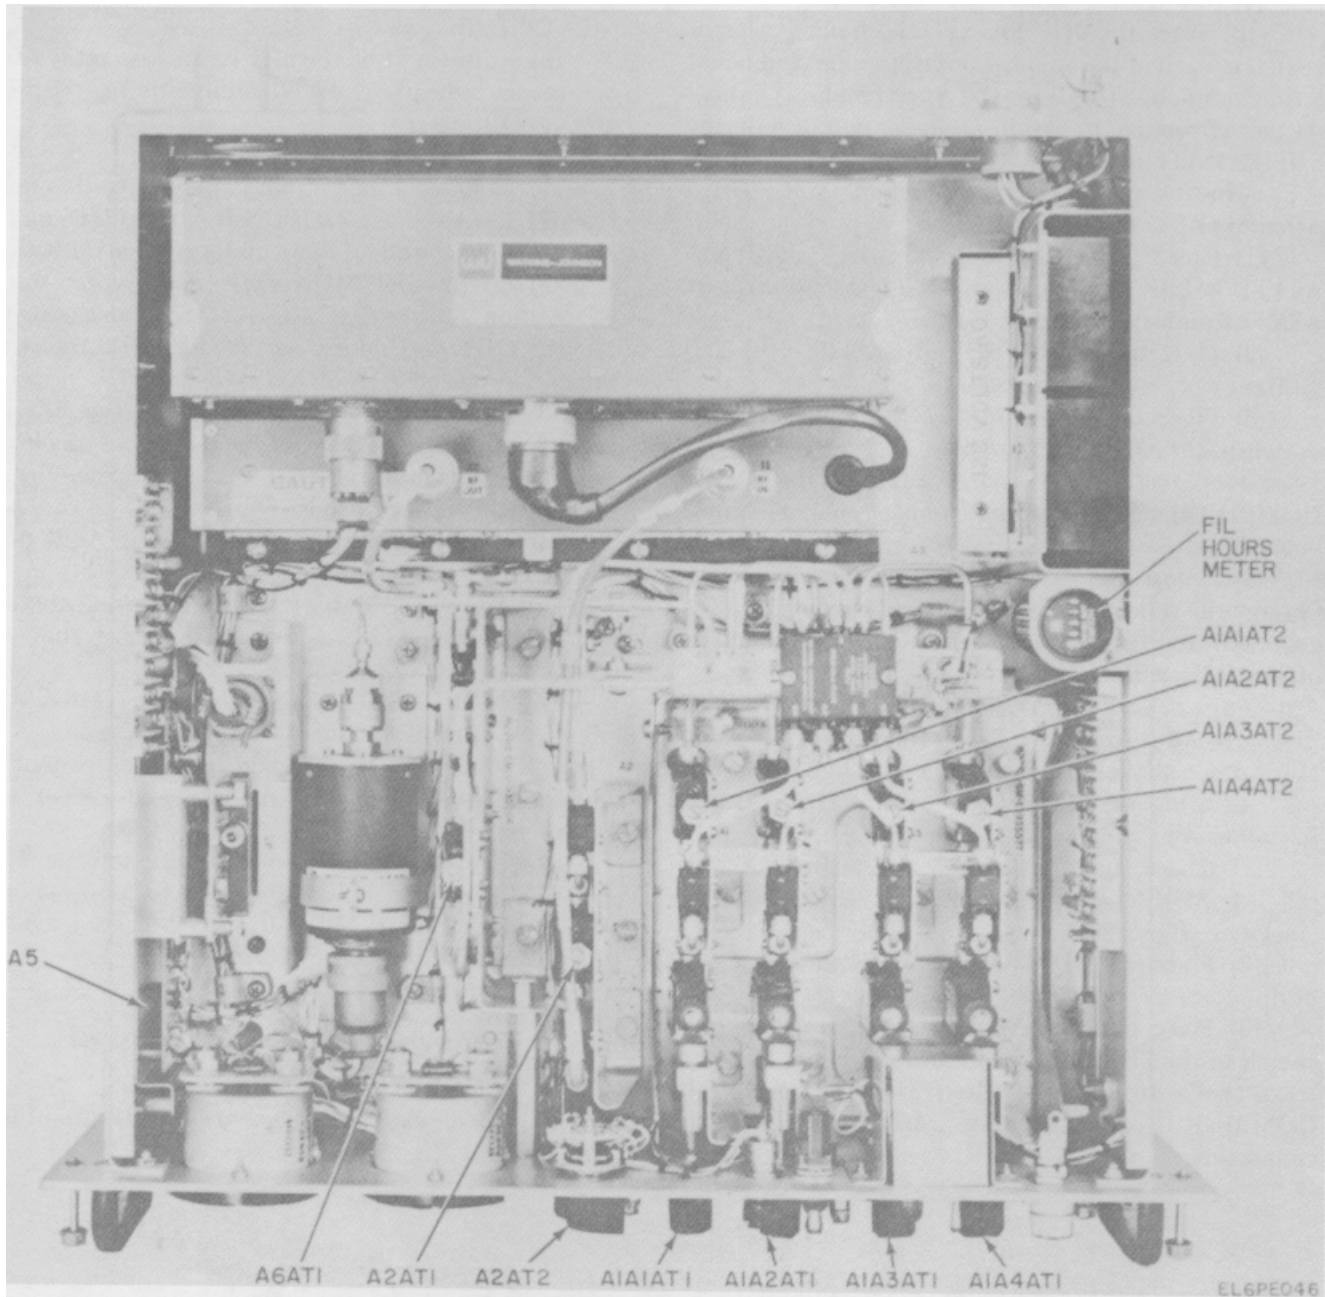

Figure 5-20. Amplifier/Mixer Module and Rear Panel Connectors Location.
b. See figure 3-5 for location of controls and indicators. See figures 5-20 and 5-21 for location of amplifier/mixer adjustments, modules, and other components. Refer to paragraph 5-37 for replacement of the amplifier/mixer modules, to paragraph 5-36 for the gain adjustments, and to paragraph 5-38 for replacement of the amplifier/mixer drawer.
(1) Check that the input level adjustment AT1 for each of the four channels on the SHF channel combiner are turned fully clockwise (fig. 5-20).
(1) Check that the output level adjustment A2AT1 is fully clockwise and the gain adjustment A2AT1 to midrange (fig. 5-20).
(2) Place the SHF MONITOR switch to the X10 position.
(3) Place the SHF MONITOR channel selector switch to the SHF OUT position.
(4) Connect all the SHF CHANNEL COMBINER cables to the proper channel input connectors.
(5) Adjust AT1 on the SHF drive assembly A2 to obtain the correct output power reading. (It is assumed 180 mw is the correct reading unless otherwise specified.)
d. Adjustments to Perform when the FET/TWT Assembly A3 is Replaced. This procedure is the same as for step c above. Repeat steps (1) through (5) above.
(1) Check that the variable attenuator AT1 on the AI SHF channel combiner is adjusted fully clockwise (fig. 5-20).
(5) Adjust the OUTPUT LEVEL control (A2AT2) fully clockwise.
(6) Adjust AT1 on the SHF output assembly A6 to obtain an indication of 180 milliwatts on the SHF MONITOR meter.